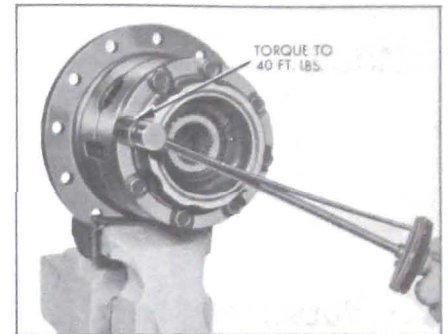

Figure 6-43—Torquing Differential Bolts
9. Install eight cover to flange half bolts and tighten evenly and alternately to 40 ft. lbs. torque. See Figure 6-43.